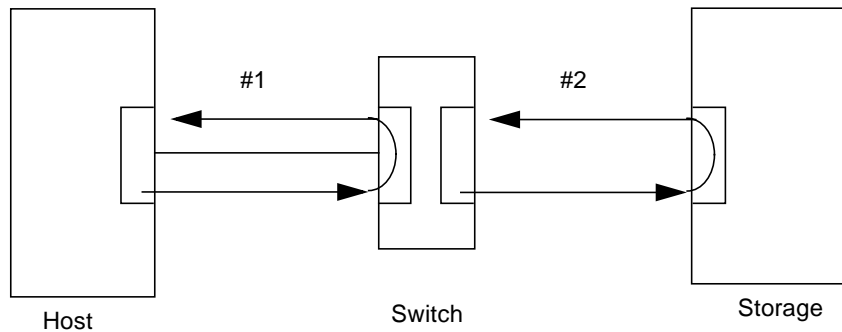

**FIGURE 20** Sun StorEdge StorTools 4.x Switch Test or SANSurfer GUI Start Test
- Switch to HBA and return path when running on a selected port. See #1 in FIGURE 20.
- Switch to array and return path when running on a selected port. See #2 in FIGURE 20.